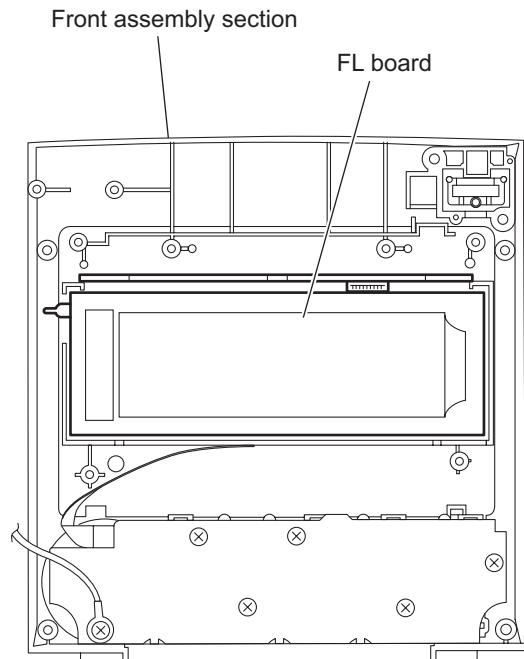

Fig.25
(3) Take out the FL board from the front assembly section. (See Fig.25.)